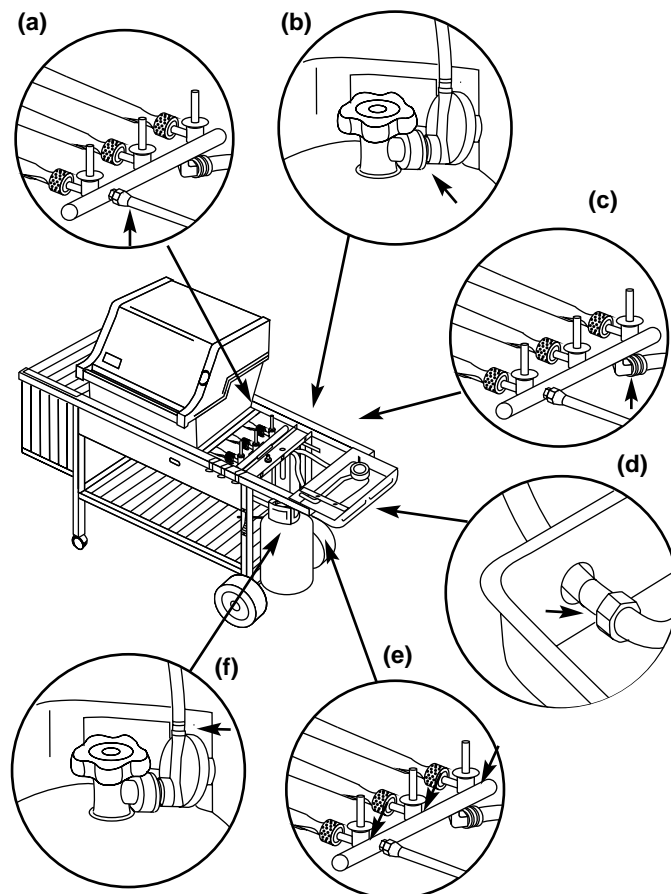

Figure 10
- a) Hose to manifold connections. Figure 10 (a).
- b) Regulator to tank connection. Figure 10 (b).
- c) Manifold to side burner hose connection. Figure 10 (c).
d) Side burner hose to side burner connection. Figure 10 (d).
e) Valves to manifold connection. Figure 10 (e).
f) Hose to regulator connection. Figure 10 (f).